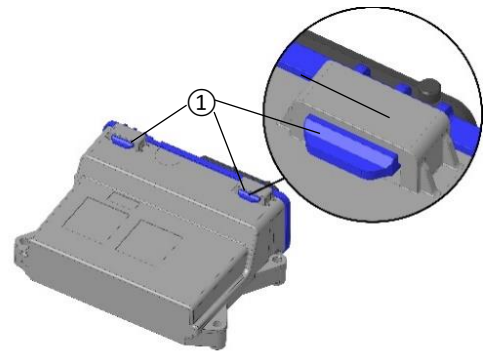

Figure 1: Locking hooks at the top
- Hold the LiTU3-Evo in your hands as shown in Figure 1. Press the two locking hooks ① on the top simultaneously with your thumbs and push them forwards.